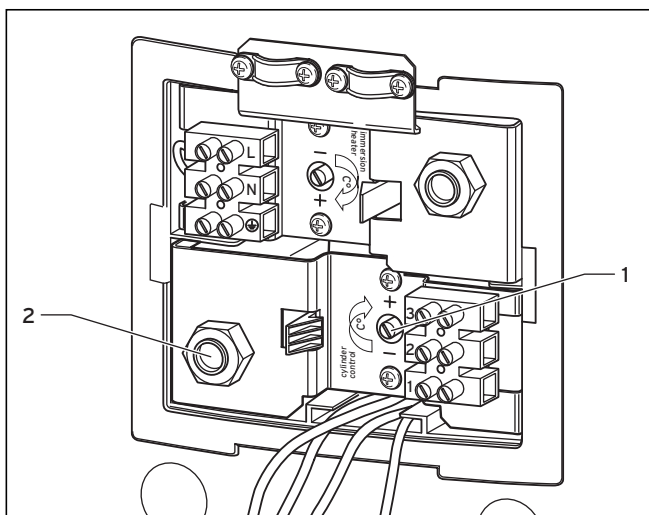

Fig. 5.20 Cylinder control device
The cylinder thermostat for the regulation of the hot water temperature (1, Fig. 5.20) can be set between 20 °C and 65 °C. The installed thermal cut out is activated at 90 °C. If the thermal cut out is triggered, the motorised 2 port valve is actuated, which then blocks the flow to the cylinder.
- Actuate the reset button (2, Fig. 5.20), to reset the thermal cut out and the motorised 2 port valve.